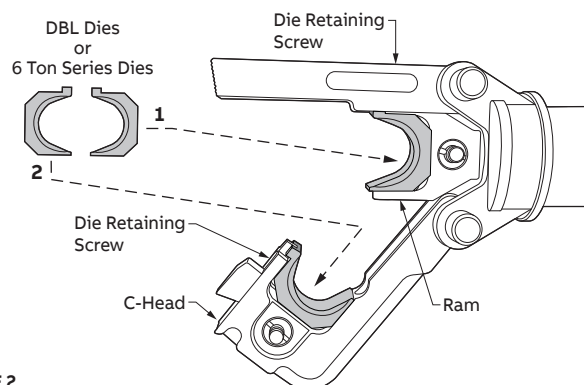

FIGURE 2
4. Loosen the two Die Retaining Screws. Insert one die half into the C-head and then insert the other half of the die into the Ram (Figure 2). Tighten the Die Retaining Screws.